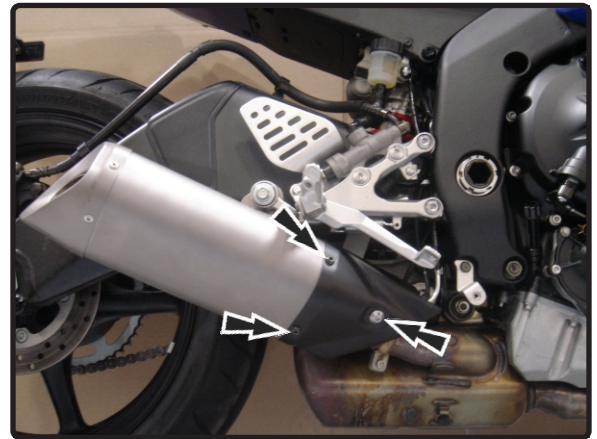

Fig. 1
- 2 Remove black cover that hides the exhaust valve (see Fig. 1).